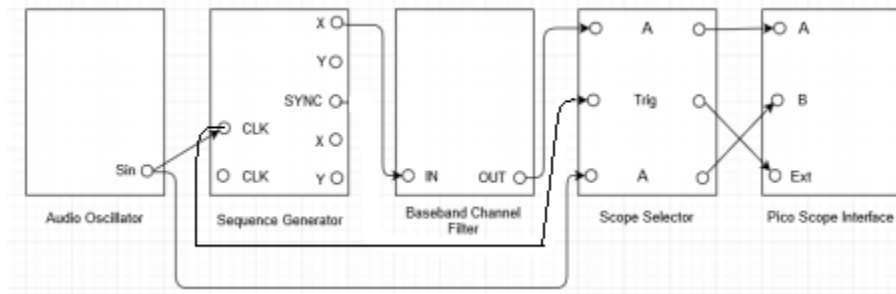

Figure A.5.4: Setup for eye diagram.
- ii. Make the setup as shown in the Figure A.5.4.